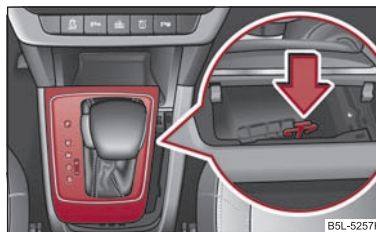

Fig. 121 Selector lever-emergency unlocking
- Use the finger to press the yellow plastic part downwards ⇒ fig. 121. ▶